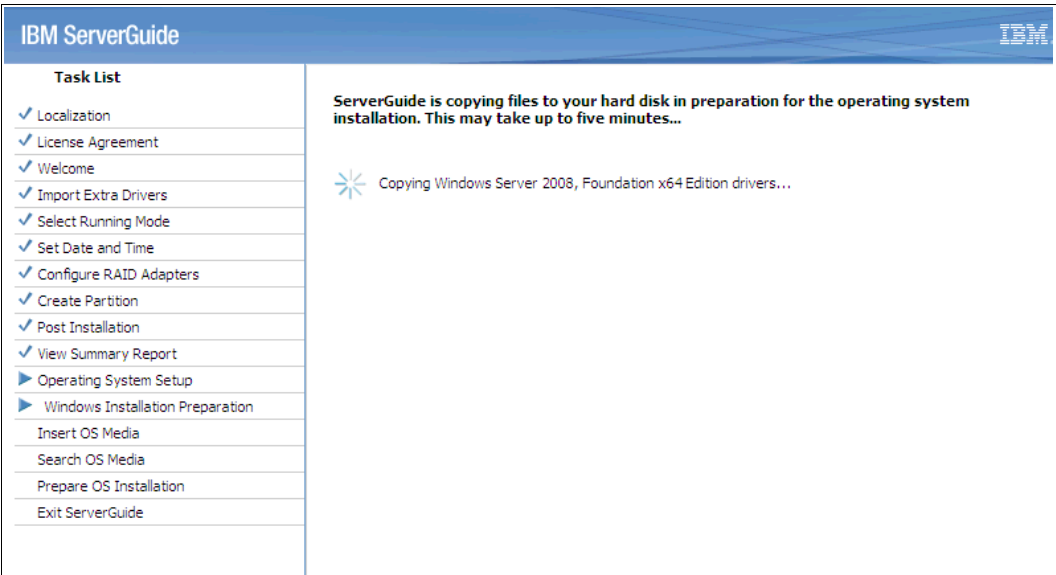

Figure 6-38 ServerGuide copying files
16. The ServerGuide copies the necessary files to the disk in preparation for the operating system installation, as shown in Figure 6-38.